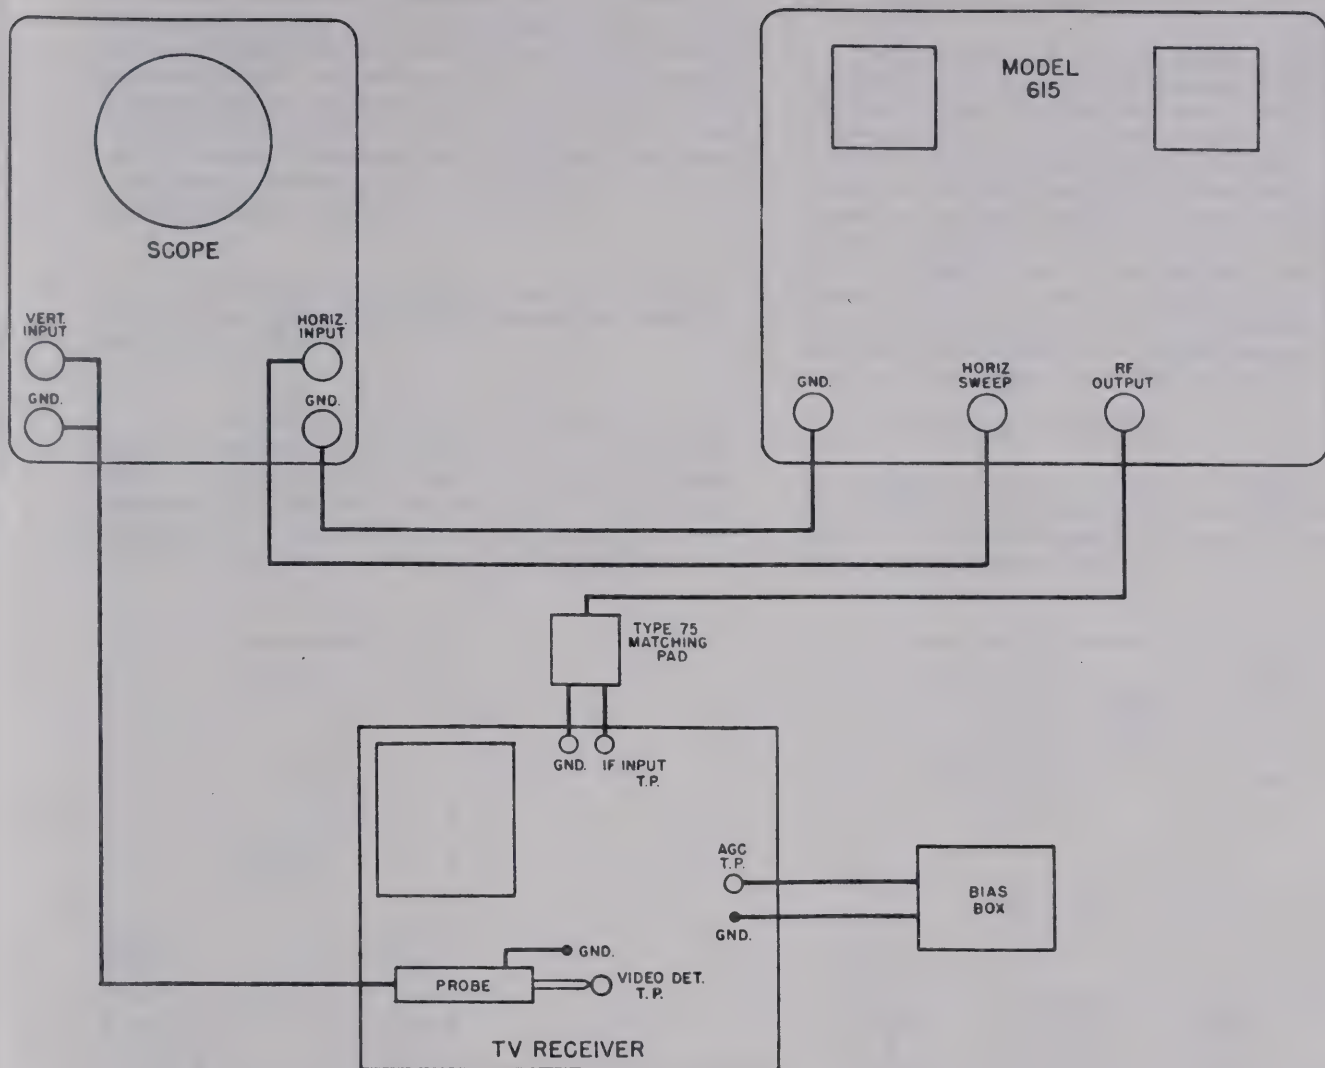

Figure 2-4. Typical Video IF Alignment Set-up
- c. Connect the equipment as shown in figure 2-4 for overall IF alignment with this exception. The Model 615 must be connected to the antenna terminals of the TV receiver.
Final touch-up adjustments are made by removing the VTVM and replacing with the oscilloscope (as shown in figure 2-4) for overall video alignment. Analyze the visual response curve and make final touch-up adjustments to obtain response curve shown in manufacturer's service manual.
Various manufacturers recommend various methods of alignment of the video IF of their TV receivers. Be guided by their recommendations. Generally, their recommendations will involve one of the following methods. See figure 2-4 for a typical IF alignment set-up.